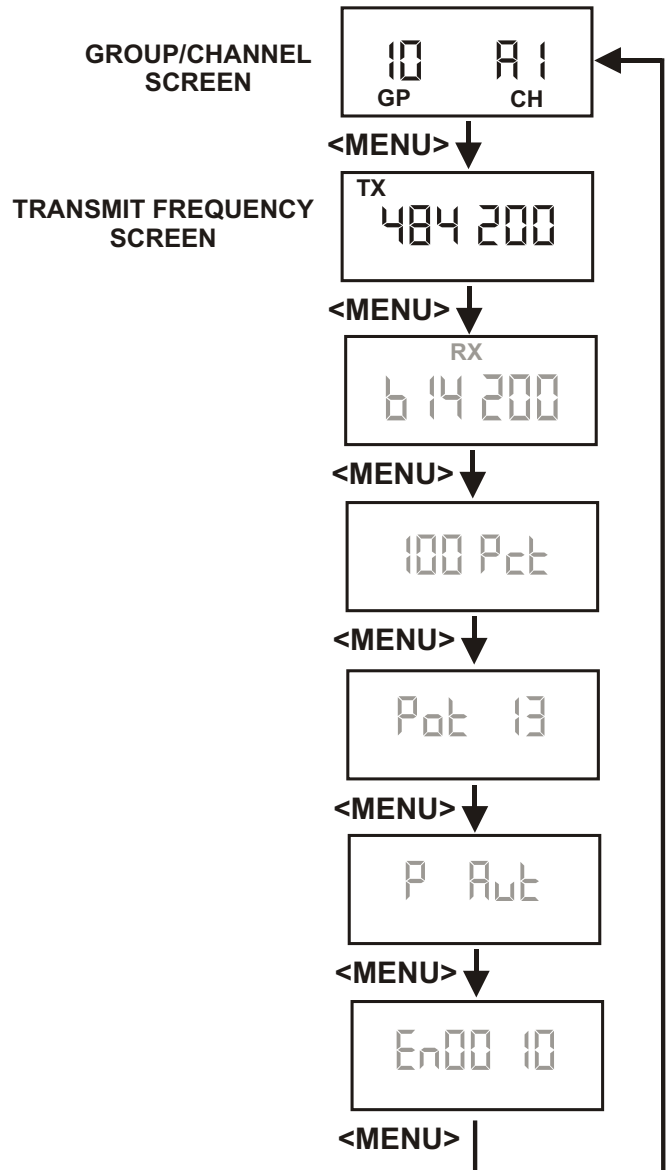

Figure 7-5
1. Set the unit to the desire user defined group and channels. See Groups and Channels Instructions. The menu structure at the right (Figure 7-5) indicates how to get to the transmit frequency screen.